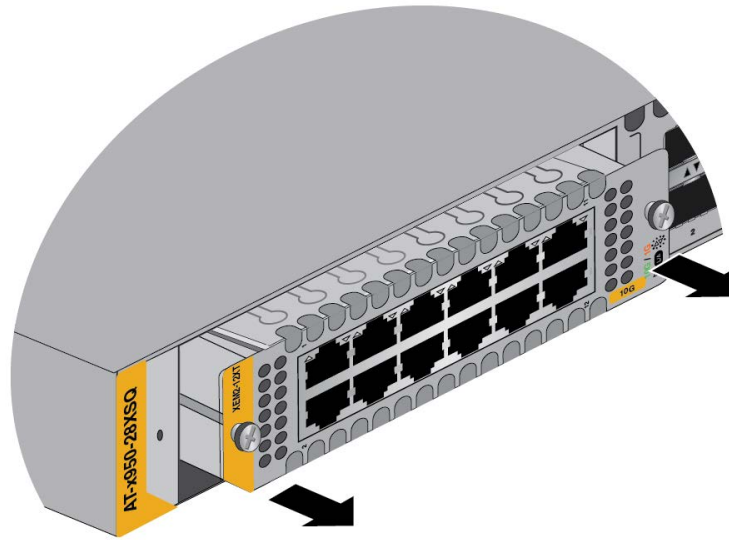

Figure 141. Disconnecting an Ethernet Line Card from the Switch
5. Carefully pull on the screws on the faceplate to disconnect the line card from the internal connector in the switch. Refer to Figure 141 on page 248.